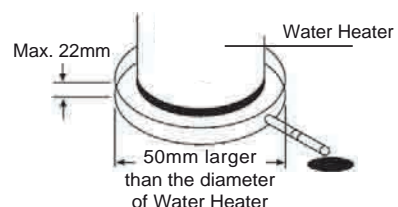

Fig. 5-2
- Since during the drainage, water leakages may take place, it is recommended to use a water collector, as it is shown in Fig. 5-2.